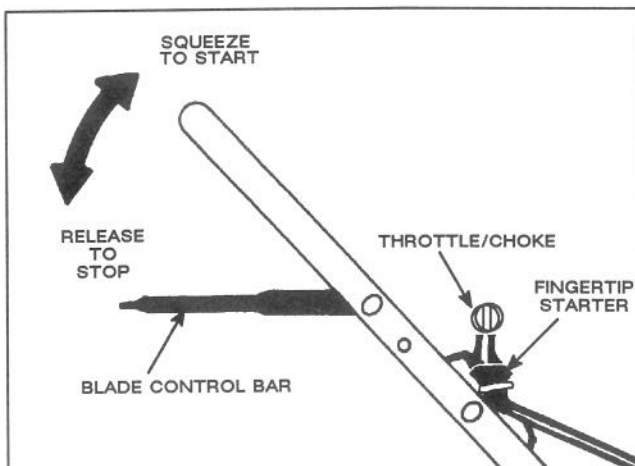
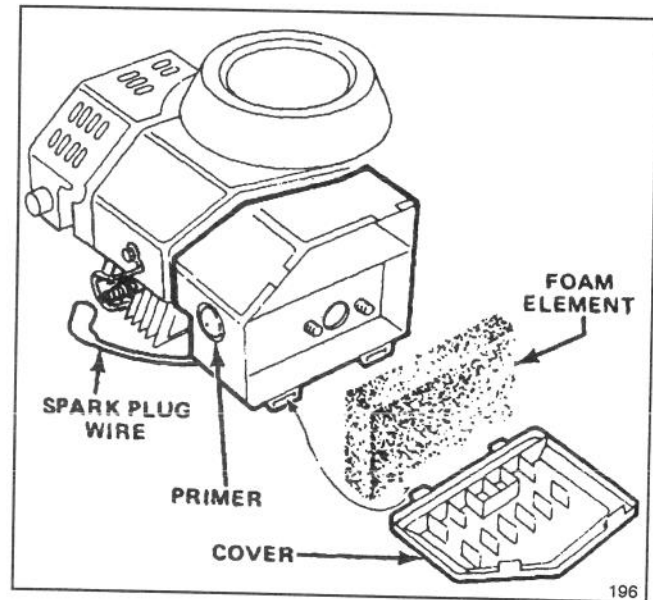

Figure 7
Figure 10
1. **CONTROLS** (Fig. 7)—Throttle/choke, blade control bar, and fingertip starter are on upper handle.
2. **STARTING**—Push spark plug wire onto spark plug (Fig. 10). Move throttle control (Fig. 7) to CHOKE. Cover hole in center of primer with thumb and push once (Fig. 10). Hold control bar against handle. Pull fingertip starter (Fig. 7) out until positive engagement results; then pull vigorously to start the engine. Regulate throttle as desired when engine starts.
3. **STOPPING** (Fig. 7)—Release control bar to stop blade. Move throttle control to STOP and wait for engine to stop. Pull wire off spark plug if mower will be unattended or not used.
1. Stop the engine and pull the wire off the spark plug (Fig. 10).
1. Stop engine and pull wire off spark plug (Fig. 10).
2. Lift tabs at top of air cleaner cover and pivot cover down. Clean cover thoroughly (Fig. 10).
3. If outside of foam element is dirty, remove it from air cleaner body (Fig. 10). Clean thoroughly.
1. Stop engine. Pull wire off spark plug (Fig. 10).